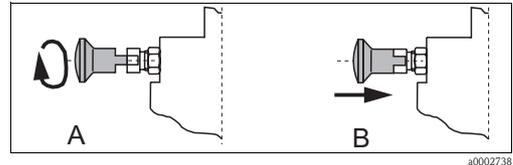

Fig. 14: Stop bolt
4. Turn the stop lock bolt through 90° so that the plastic grooves are located above the recesses (Fig. 14, A).
5. Turn the retractable pipe **clockwise** until the stop lock bolt engages (B).